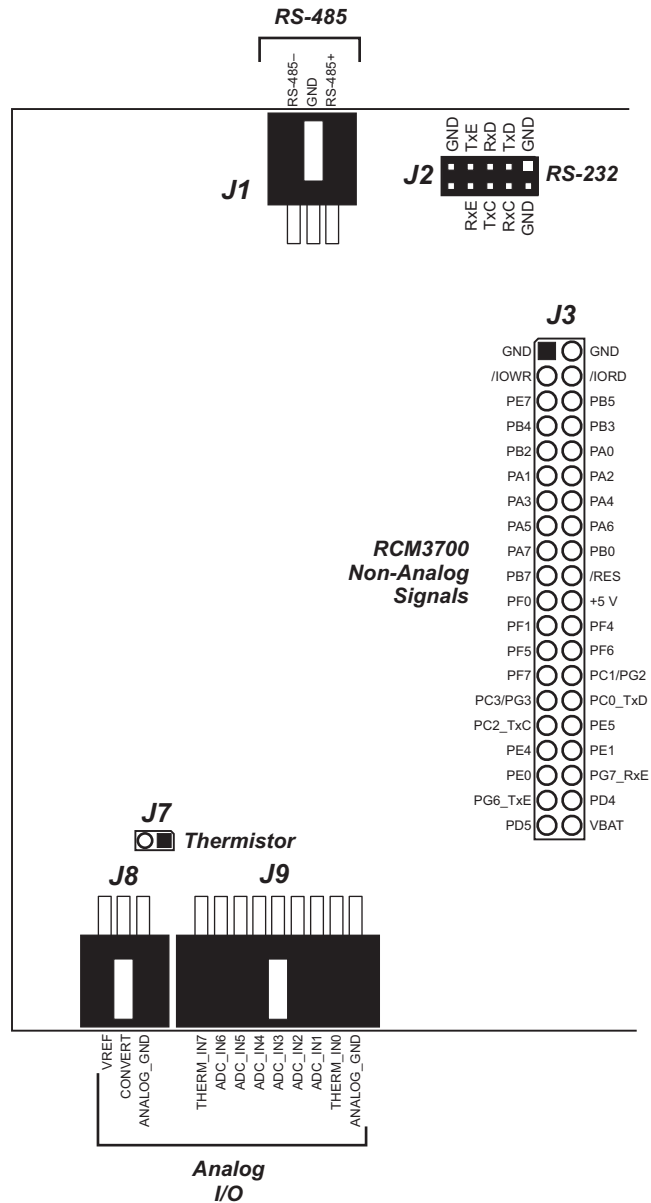

Figure B-4. Prototyping Board Pinout
- **Module Extension Headers**—The complete non-analog pin set of the RCM3600 module is duplicated at header J3. Developers can solder wires directly into the appropriate holes, or, for more flexible development, a 2 x 20 header strip with a 0.1" pitch can be soldered into place. See Figure B-4 for the header pinouts.
- **Analog I/O Shrouded Headers**—The complete analog pin set of the RCM3600 Prototyping Board is available on shrouded headers J8 and J9. See Figure B-4 for the header pinouts.
The Prototyping Board pinouts are shown in Figure B-4.
Analog input THERM_IN7 on the Prototyping Board was designed specifically for use with a thermistor in conjunction with the `THERMISTOR.C` sample program, which demonstrates how to use analog input THERM_IN7 to calculate temperature for display to the Dynamic C **STDIO** window. The sample program is targeted specifically for the thermistor included with the Development Kit with $R_0 @ 25^\circ\text{C} = 3 \text{ k}\Omega$ and $\beta 25/85 = 3965$. Be sure to use the applicable R_0 and β values for your thermistor if you use another thermistor. Install the thermistor at location J7, which is shown in Figure B-4.